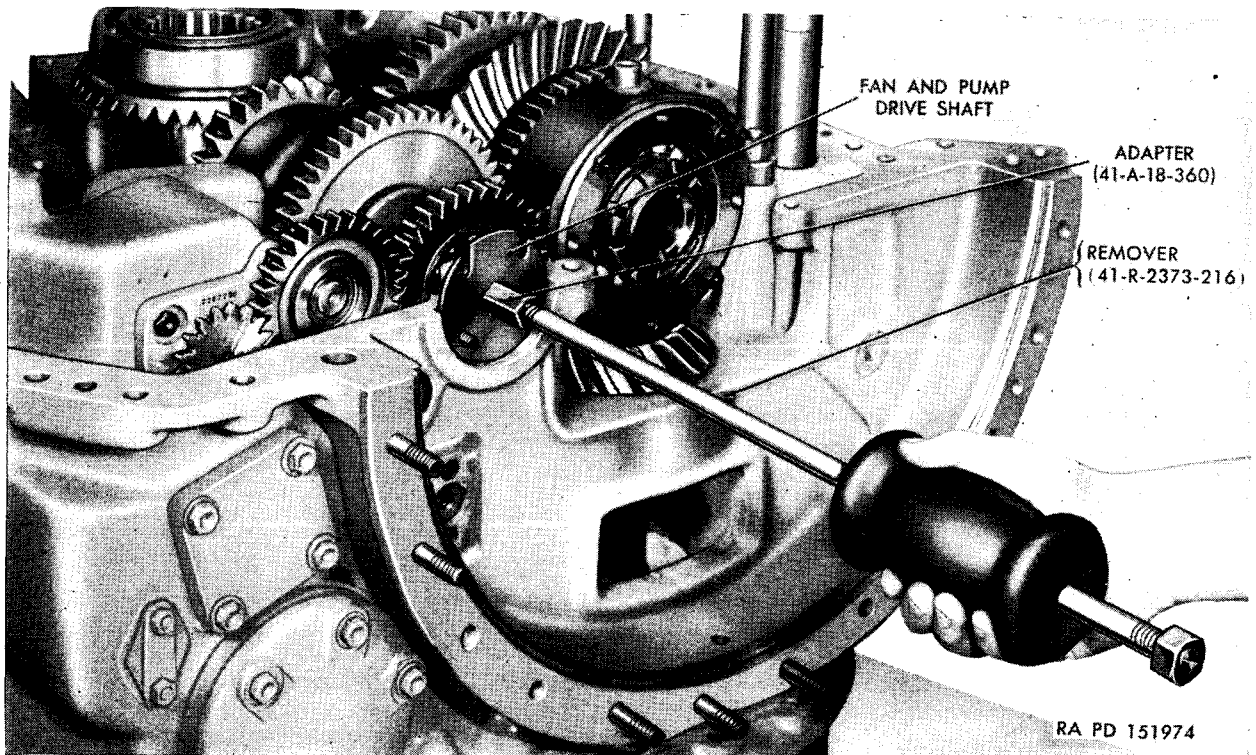

Figure 235. Removing fan and pump drive shaft.
a. LEFT HOUSING. Place the left housing on the assembly table so that the right housing mounting surface is up. Refer to figure 235.
- (3) Using a ½-inch wrench, remove the nuts and the lock plate which secure the fan-and-pump drive shaft. Install the adapter (41-A-18-360) in the end of the shaft
- (4) Using remover (41-R-2373-216), remove the fan and pump drive shaft (fig. 235).